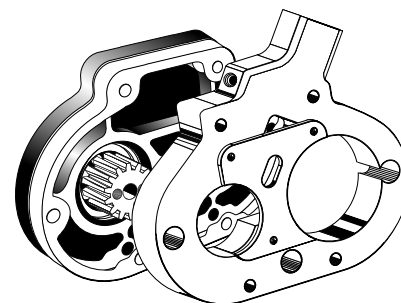

Figure 9
17. See Figure 9. Apply grease between the counter nut and counter gear. Install the counter gear4 on to the counter nut.